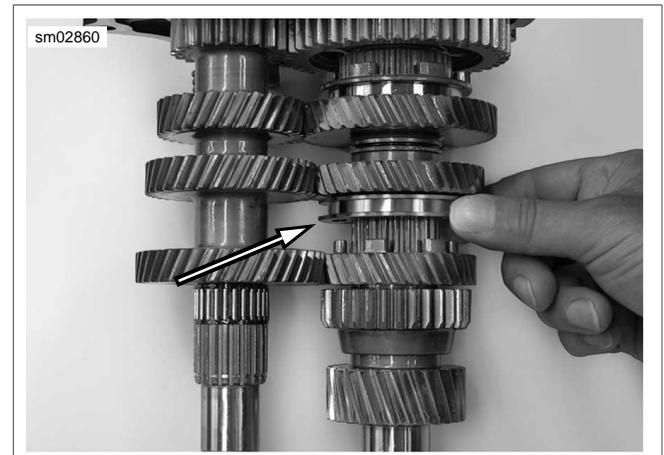

Figure 7-26. Raise and Hold Dog Ring
- See Figure 7-26. Hold dog ring so that it is engaged with countershaft 3rd gear during the press procedure. If press is performed with dog ring engaged with countershaft 4th gear, contact with mainshaft 4th gear will push shafts out of alignment and result in possible bearing and gear damage.